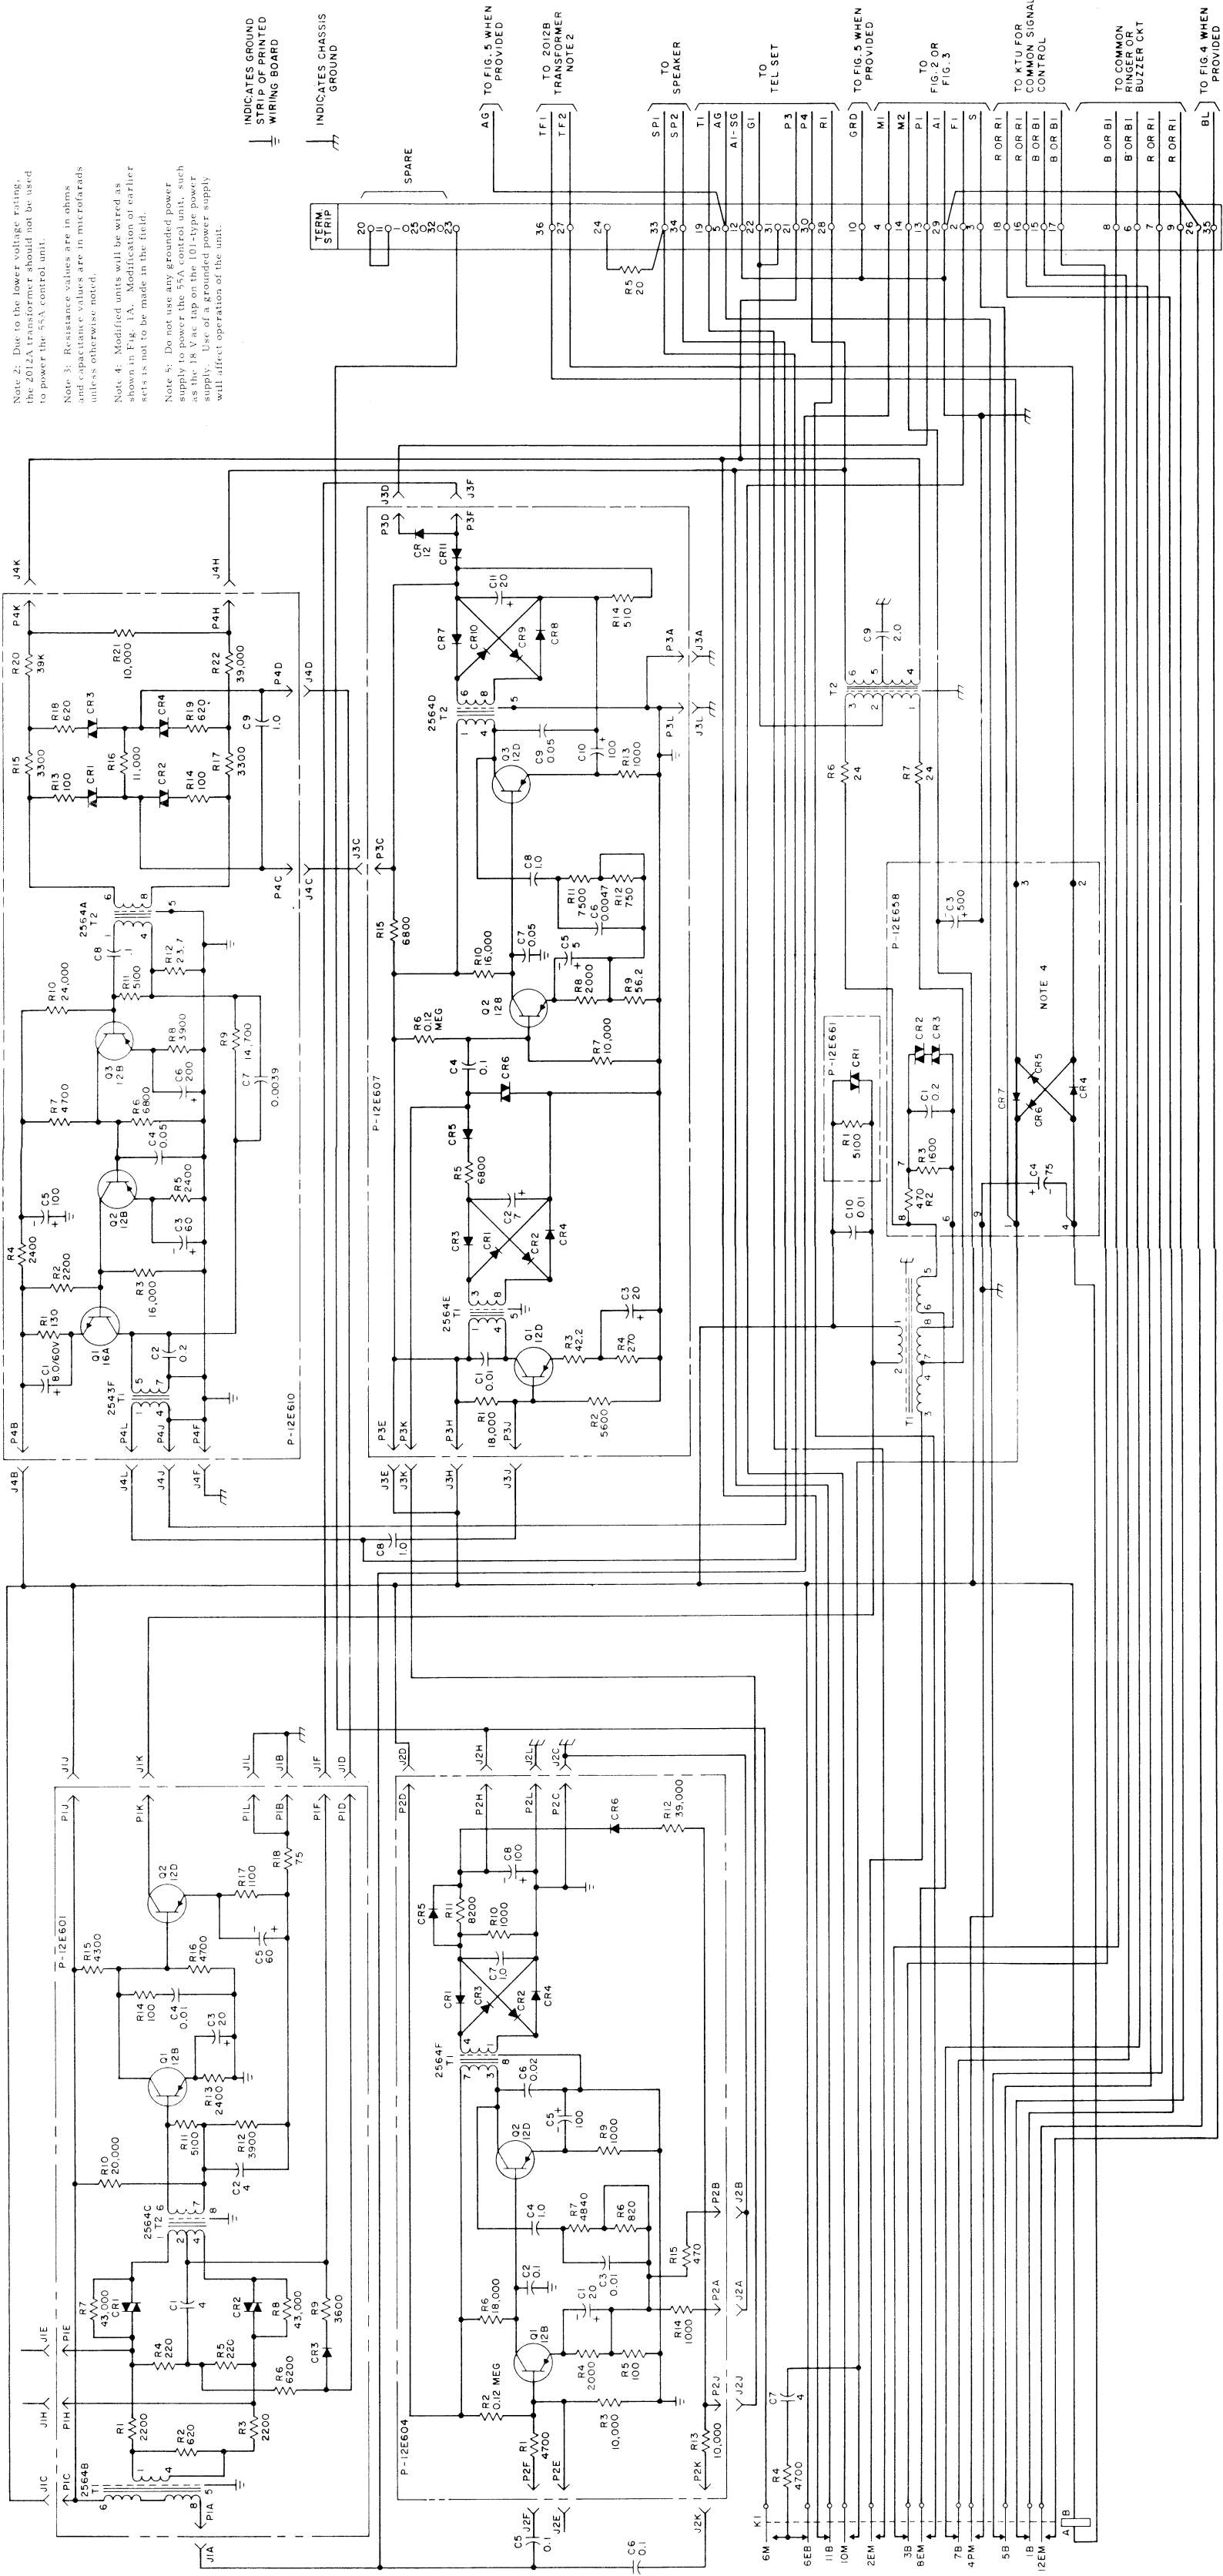

Fig. 1 - 55A Control Unit
- Make wiring changes to Fig. 1, 2, and 3.